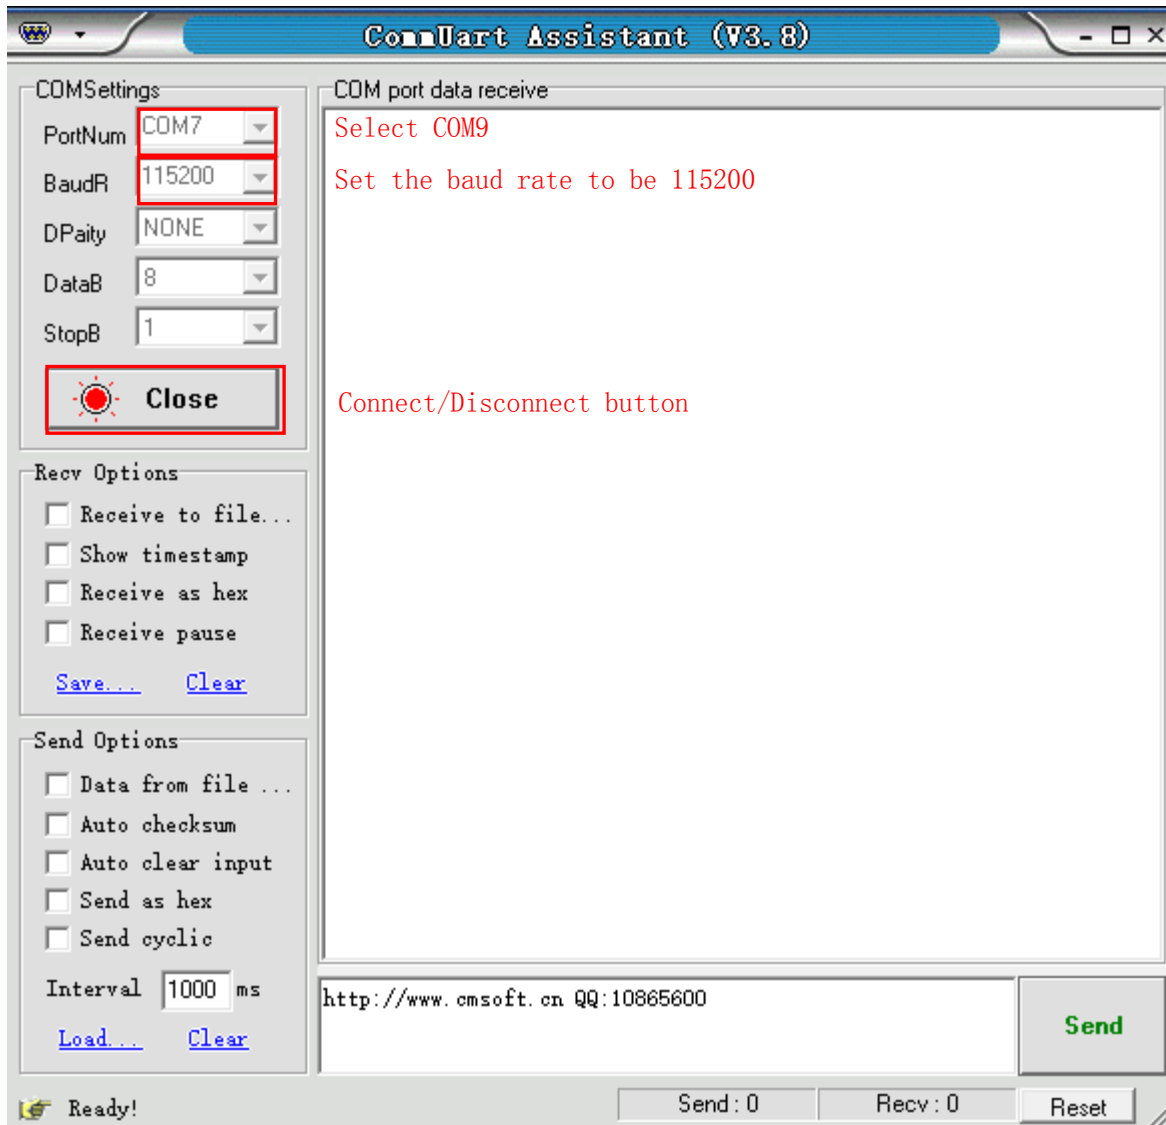

Fig.104 USB connection succeeds
2) After these settings are completed, if you see a black circle like , you need to click the button to turn it into . If you fail in doing so, please check the port number and retry the connection. Please note that if the baud rate is too high, packet loss might occur in process of data transmission. In our example, we set the baud rate to be 115200 as shown in Fig.104.